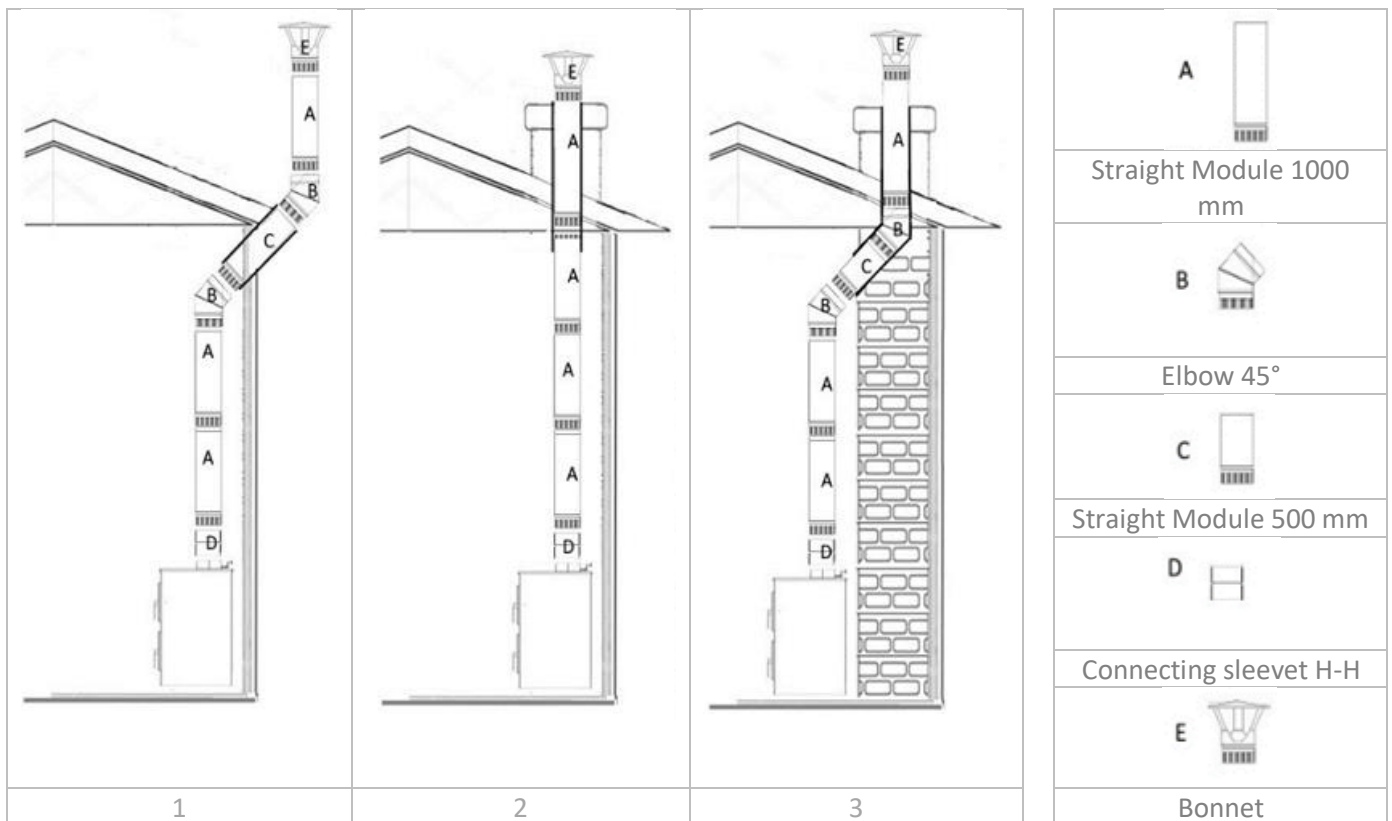

Figure 2
- 3. VERTICAL SECTION (A).** The total length of the vertical pipe required to reach the roof for natural draught (flue gas depression) can vary from installation to installation, depending on various factors, but generally ranges from approximately 4 m to 6 m. However, optimal performance is guaranteed with a minimum vacuum of approximately  $\pm 15$  Pa (pascals).
- 4. BENDS (B).** If bends are required (see drawings 1 and 2 in Figure 2), the ducts will be connected using elbows. These may be up to 45° and must not be narrowed. The following must also be considered:
- 5. HORIZONTAL SECTION (C).** The connecting duct or horizontal section of the chimney must be designed with the minimum possible length and avoiding changes in direction and section as much as possible. The following must be taken into account accordingly:
- 6. UNION SLEEVE (D).** For the correct connection of the vertical duct with the flue outlet collar m (male) of the cooker, a socket h/h (female/female) is required so that the end m (male end of the vertical duct faces downwards).
- 7. CHIMNEY CAP (E).** For proper smoke evacuation and to prevent wind influences, certain minimum distances from the chimney cap are required. See the following figure: